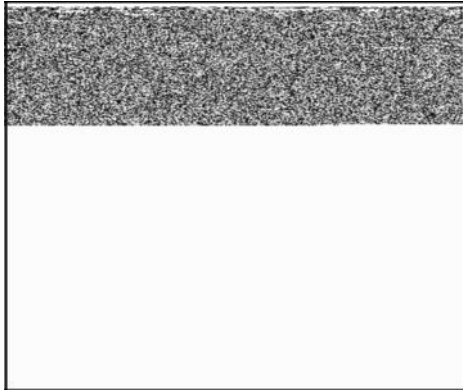

Figure 4
3. Remove the oil fill tube and dipstick (C, Figure 4).
4. Remove the screws and blower housing (D).